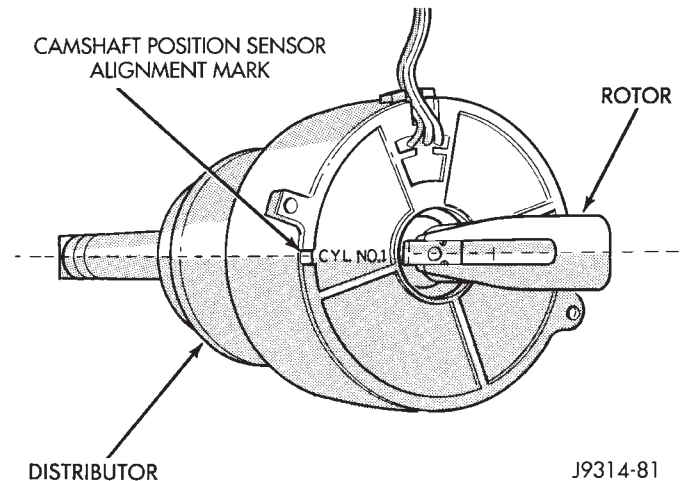

Fig. 38 Rotor Alignment Mark—5.2L Engines
(10) The distributor rotor should now be aligned to the CYL. NO. 1 alignment mark (stamped) into the camshaft position sensor (Fig. 38). If not, rotate the crankshaft through another complete 360 degree turn. Note the position of the number one cylinder spark plug cable (on the cap) in relation to rotor. Rotor should now be aligned to this position.
(1) Clean top of cylinder block for a good seal between distributor base and block.
(2) Lightly oil the rubber o-ring seal on the distributor housing.
(3) Install rotor to distributor shaft.
(4) Position distributor into engine to its original position. Engage tongue of distributor shaft with slot in distributor oil pump drive gear. Position rotor to the number one spark plug cable position.
(5) Install distributor holddown clamp and clamp bolt. Do not tighten bolt at this time.
(6) Rotate the distributor housing until rotor is aligned to CYL. NO. 1 alignment mark on the camshaft position sensor (Fig. 38).